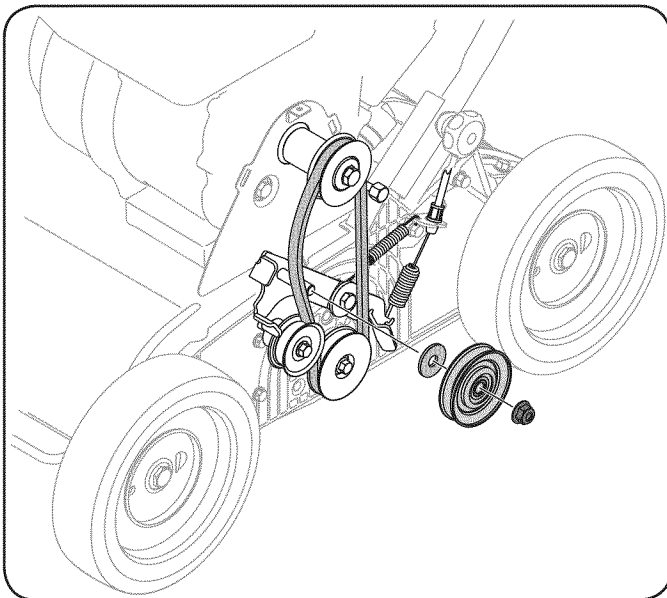

Figure 15
2. Remove the upper left pulley. See Figure 15.
2. Reinstall the pulley removed earlier, fitting the belt into the pulley as the pulley slides into the belt keeper. See Figure 15.